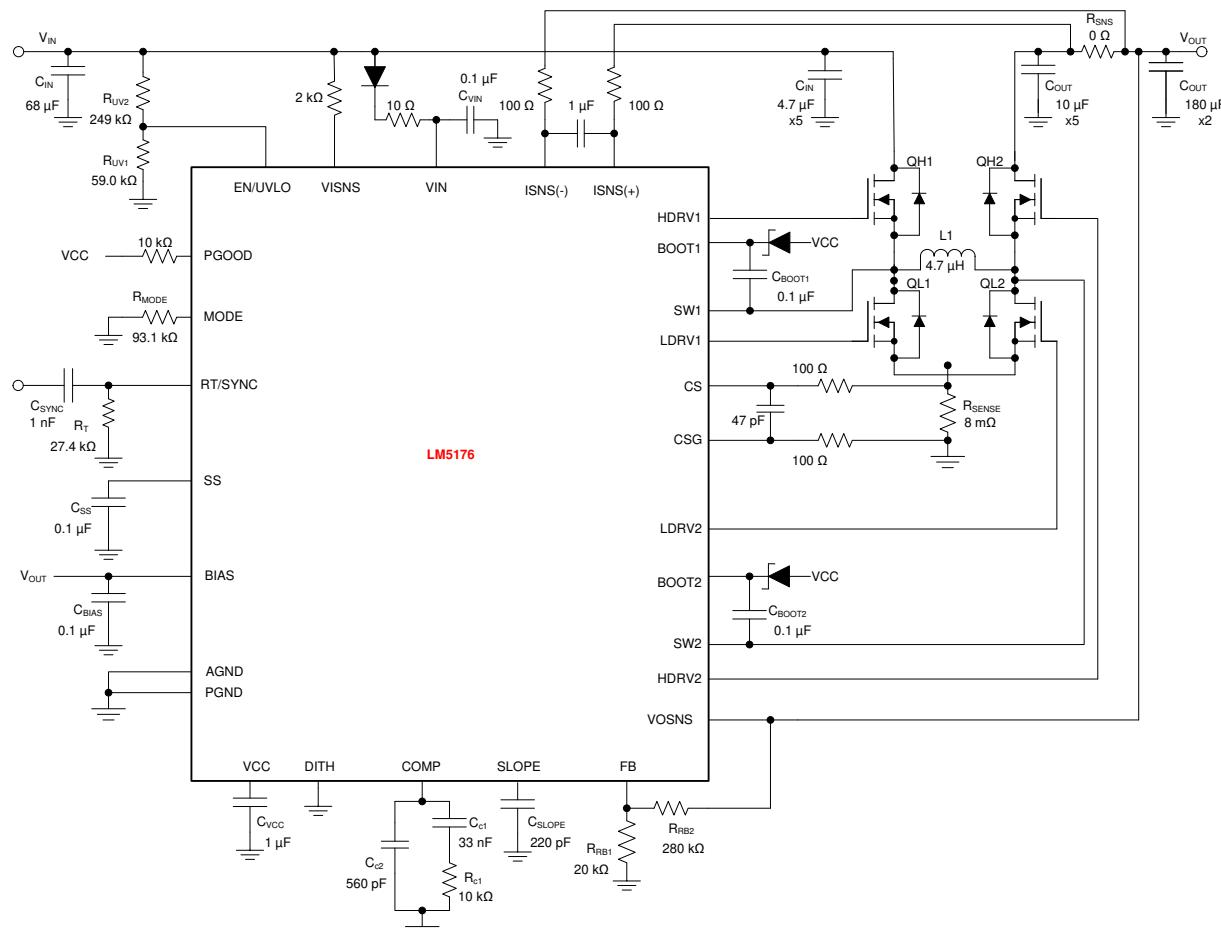

Figure 8-1. LM5176 Four-Switch Buck Boost Application Schematic
A filter network as shown in Figure 8-1 is often used across the ISNS(+) and ISNS(-) pins to filter the ripple in the average current sense signal.
For application where input voltage is higher than 40 V, a 2-k $\Omega$  resistor in series with the VISNS pin is required as shown in Figure 8-1.
The LM5176 has a gm error amplifier for loop compensation. The gm amplifier output (COMP) range is 0.3 V to 3 V. Connect an  $R_{c1}$ - $C_{c1}$  compensation network between COMP and ground for type II (PI) compensation (see Figure 8-1). Another pole is usually added using  $C_{c2}$  to suppress higher frequency noise and switching frequency ripple.
The low-side gate drivers are powered from VCC and the high-side gate drivers HDRV1 and HDRV2 are powered from bootstrap capacitors  $C_{BOOT1}$  (between BOOT1 and SW1) and  $C_{BOOT2}$  (between BOOT2 and SW2), respectively. The  $C_{BOOT1}$  and  $C_{BOOT2}$  capacitors are charged through external Schottky diodes connected to the VCC pin as shown in Figure 8-1.
Typically, a combination of ceramic and bulk capacitors is needed to provide low ESR and high ripple current capacity. The complete schematic in Figure 8-1 shows a good starting point for  $C_{\text{OUT}}$  for typical applications.
The maximum RMS current occurs at  $D = 0.5$ , which gives  $I_{\text{CIN}(\text{RMS})} = I_{\text{OUT}} / 2 = 3 \text{ A}$ . A combination of ceramic and bulk capacitors should be used to provide a short path for high  $di/dt$  current and to reduce the output voltage ripple. The complete schematic in Figure 8-1 is a good starting point for  $C_{\text{IN}}$  for typical applications.
For some application circuits, it can be required to add a filter network to attenuate noise in the CS and CSG sense lines. See Figure 8-1 for typical values. The filter resistance should not exceed  $100 \text{ }\Omega$ .